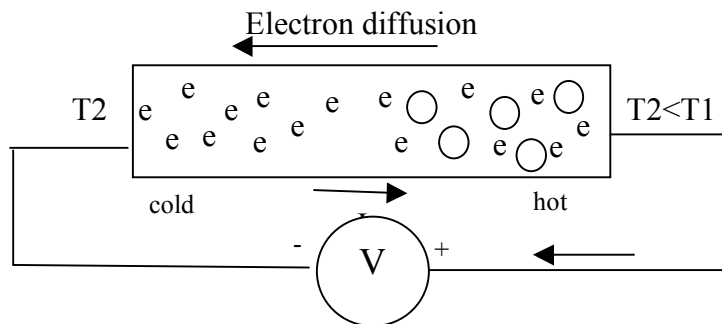

Figure 1: Electrons diffuse from the hot to cold side of the metal (Thompson EMF) or semiconductor leaving holes on the cold side.
1. Measure the ΔV across different materials (Cu, PbSn, Al (as shown in Figure 1, above) with $T_1 \sim 0^\circ\text{C}$ and $T_2 = 100^\circ\text{C}$. Determine the Seebeck Coefficients from $S = \Delta V / \Delta T_{12}$
1. Create two junctions between two different materials (as shown in Figure 1, above) by twisting wires firmly together. As shown in the diagram, you'll need one length of the first material, and two lengths of the second material.
3. Attach the voltmeter leads to the two free ends (as shown in Figure 1, above.) The test leads with alligator clips will be useful for this.